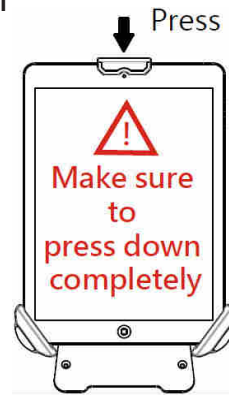

Figure 6
2. Press the top **Tablet Holder Arm** down until it is seated against the top of the **Tablet**. (Figure 6)